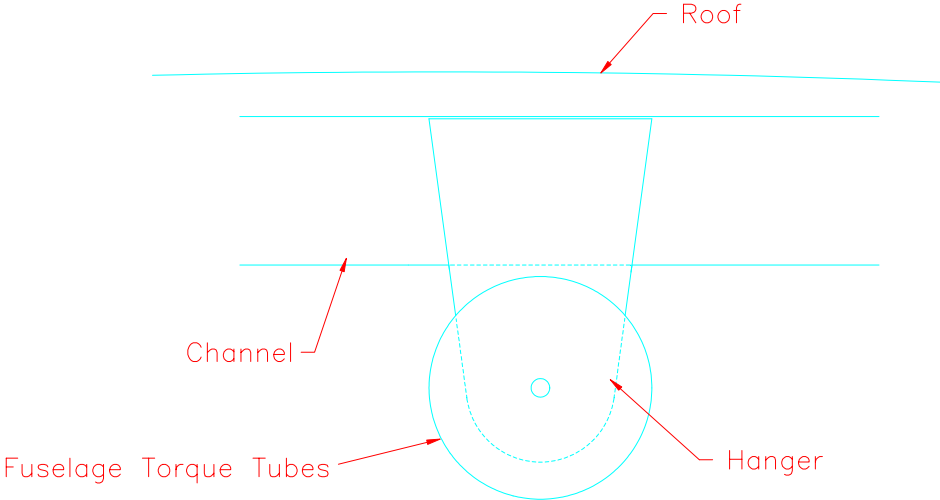

Figure 15.8.8
17) Align all torque tubes so that there is no binding at the pivot points. Locate the hanger (CC-78). Position it on the channel on the roof. Clamp the hanger onto the channel. Figure 15.8.8.